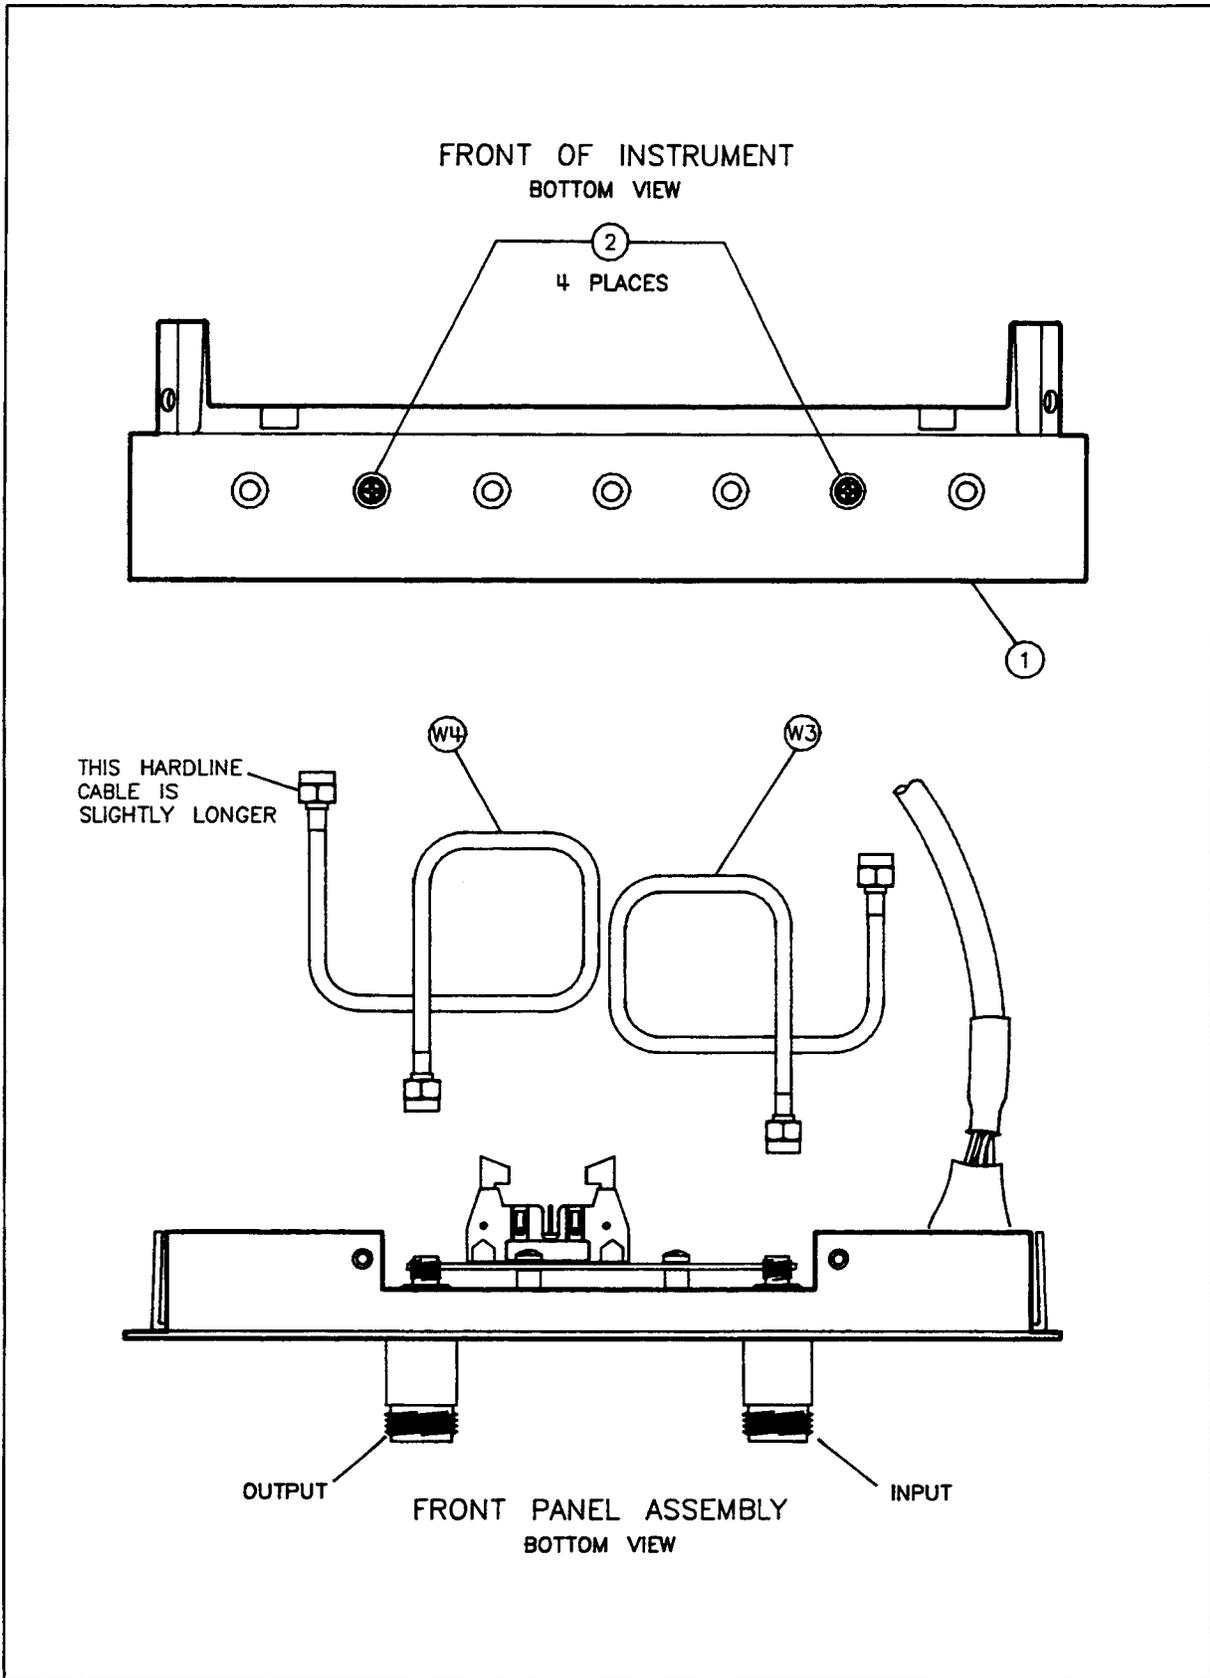

Figure 5-1. Front Panel Attaching Hardware and Hardline Cables
3. Remove the two screws identified as item 2 in Figure 5-1 (identical screws are located on the top and bottom of the unit). Remove the ribbon cable connecting the motherboard to the front panel board.
5. Turn the amplifier upside down. Remove the two screws identified as item 2 in Figure 5-1.